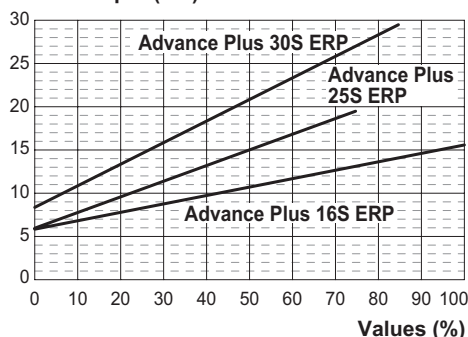
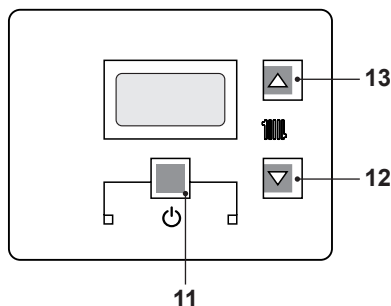
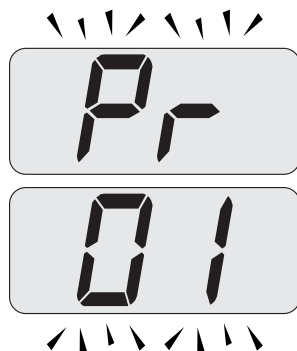
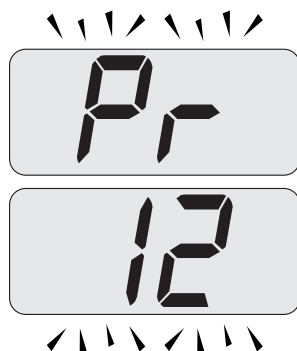

Fig. 7.44
Fig. 7.45
Fig. 7.46
Fig. 7.47
Refer to Fig. 7.44 and determine the correct Value appertaining to the output required for the central heating requirement.
- Enter the "programming mode" by pressing keys 11 - 12 - 13 (Fig. 7.45) for 10 seconds at the same time until the letters **Pr** that alternate with code **01** are displayed on the LCD display, indicating that "parameter 01" (Fig. 7.46) has been activated.
- Scroll the various parameters using keys 12 or 13 until the letters **Pr** that alternate with code **12** are displayed on the LCD display, indicating that "parameter 12" (Fig. 7.47) has been activated.
- Press keys 11 and 13 (Fig. 7.45) at the same time until the value of parameter 12 (99=Advance Plus 16S ERP - Advance Plus 25S ERP - Advance Plus 30S ERP) is displayed on the LCD display (Fig. 7.48).
- It is possible to modify parameter using keys 12 or 13 (Fig. 7.45) (Refer to Fig. 7.44 and determine the correct Value appertaining to the output required for the central heating requirement.).
- By pressing key 11 (Fig. 7.45) confirmation of the inserted value is obtained.
- Press keys 11 and 12 (Fig. 7.45) at the same time to exit without changing the value (return to the parameters list Fig. 7.47).
- Press keys 11 - 12 - 13 (Fig. 7.45) at the same time for 10 seconds to exit the "programming mode".